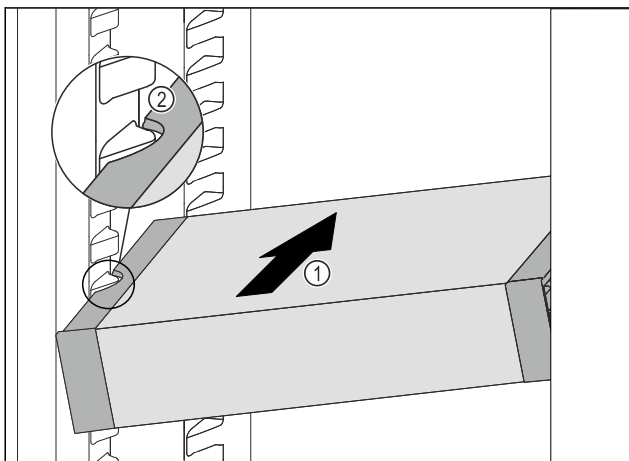

Fig. 84
- Insert the VarioSafe into the fridge section at an angle Fig. 84 (1) until the recesses in the side Fig. 84 (2) of the VarioSafe are at the level of the support rib in the fridge section.